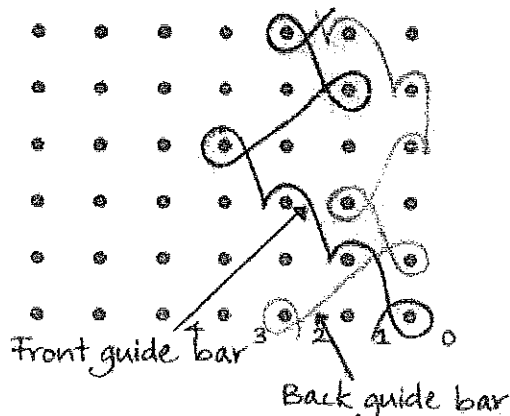

Figure 3
- (c) Give the chain notations of the front guide bar and the back guide bar for the warp knit structure shown in the Figure 3.